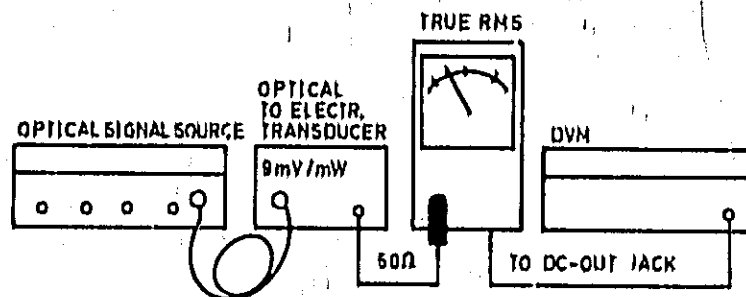

Figure 4-6. Test setup for establishing the flatness of the stimulating source
- a. Connect the equipment as shown in Figure 4-6.